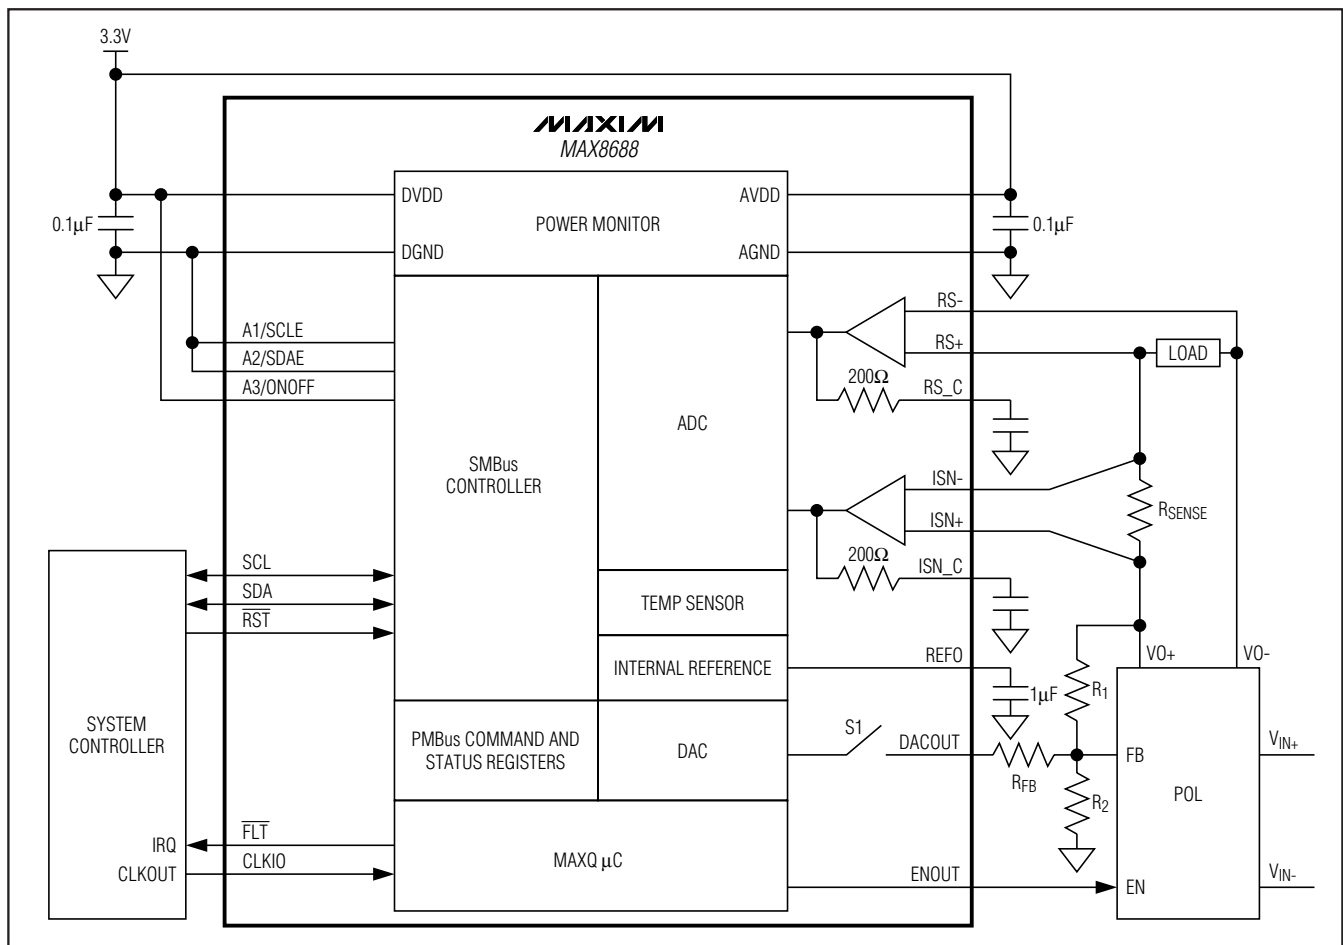

Figure 5. Typical System Application—Feedback Mode
In applications where a REFIN input is not available, the MAX8688 interfaces to the inverting input of the POL error amplifier, the feedback node (FB), through a resistor  $R_{FB}$  as shown in Figure 5. In steady-state operation, the MAX8688 controls the POL voltage as measured between RS+ and RS- to 0.2% accuracy over line, load, and temperature variations, by adjusting DACOUT 1 LSB (0.5mV) at a time, up and down as required. This mode of operation is termed FB mode. Since the MAX8688 does not have control over the POL error-amplifier reference voltage, this mode relies on the POL soft-start setting to implement the required soft-start time. On receipt of either an OPERATION ON command or a turn-on signal from A3/ONOFF, the MAX8688 commences startup operations that have been programmed for the POL being controlled. After the programmed  $t_{ON\_DELAY}$  time, the MAX8688 open-drain ENOUT output goes active, causing the POL to ramp up its output voltage to its target value. The soft-start time taken by the POL to ramp from zero to its commanded output voltage should be entered into the MAX8688 with the  $t_{ON\_RISE}$  parameter.